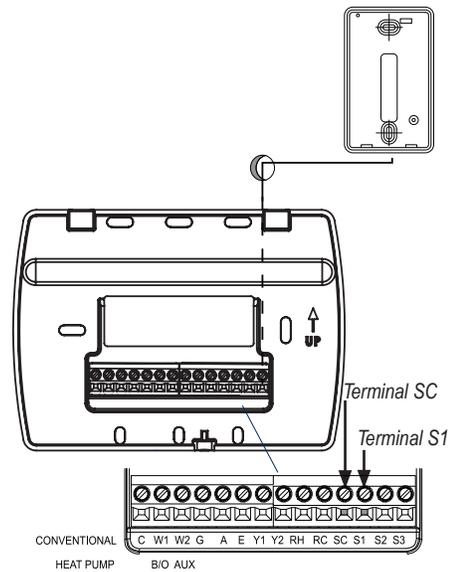

Figure 22.
2. **Connect wires.** Connect the wiring to the terminals, S1 and SC, at the thermostat wallplate (see Fig. 22).